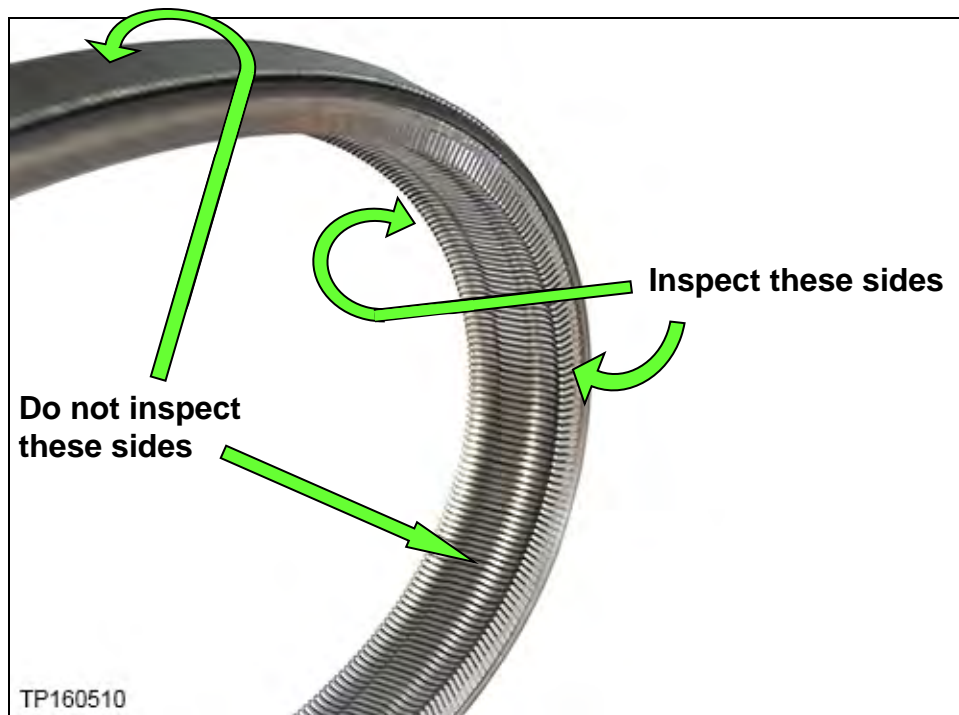

Figure 7A
6. Using borescope J-51951 with mirror attachment, inspect the entirety of the two sides of the belt that come in contact with the pulleys (see page 11, Figure 7A). Reference the pictures on pages 11 through 15 for comparison.